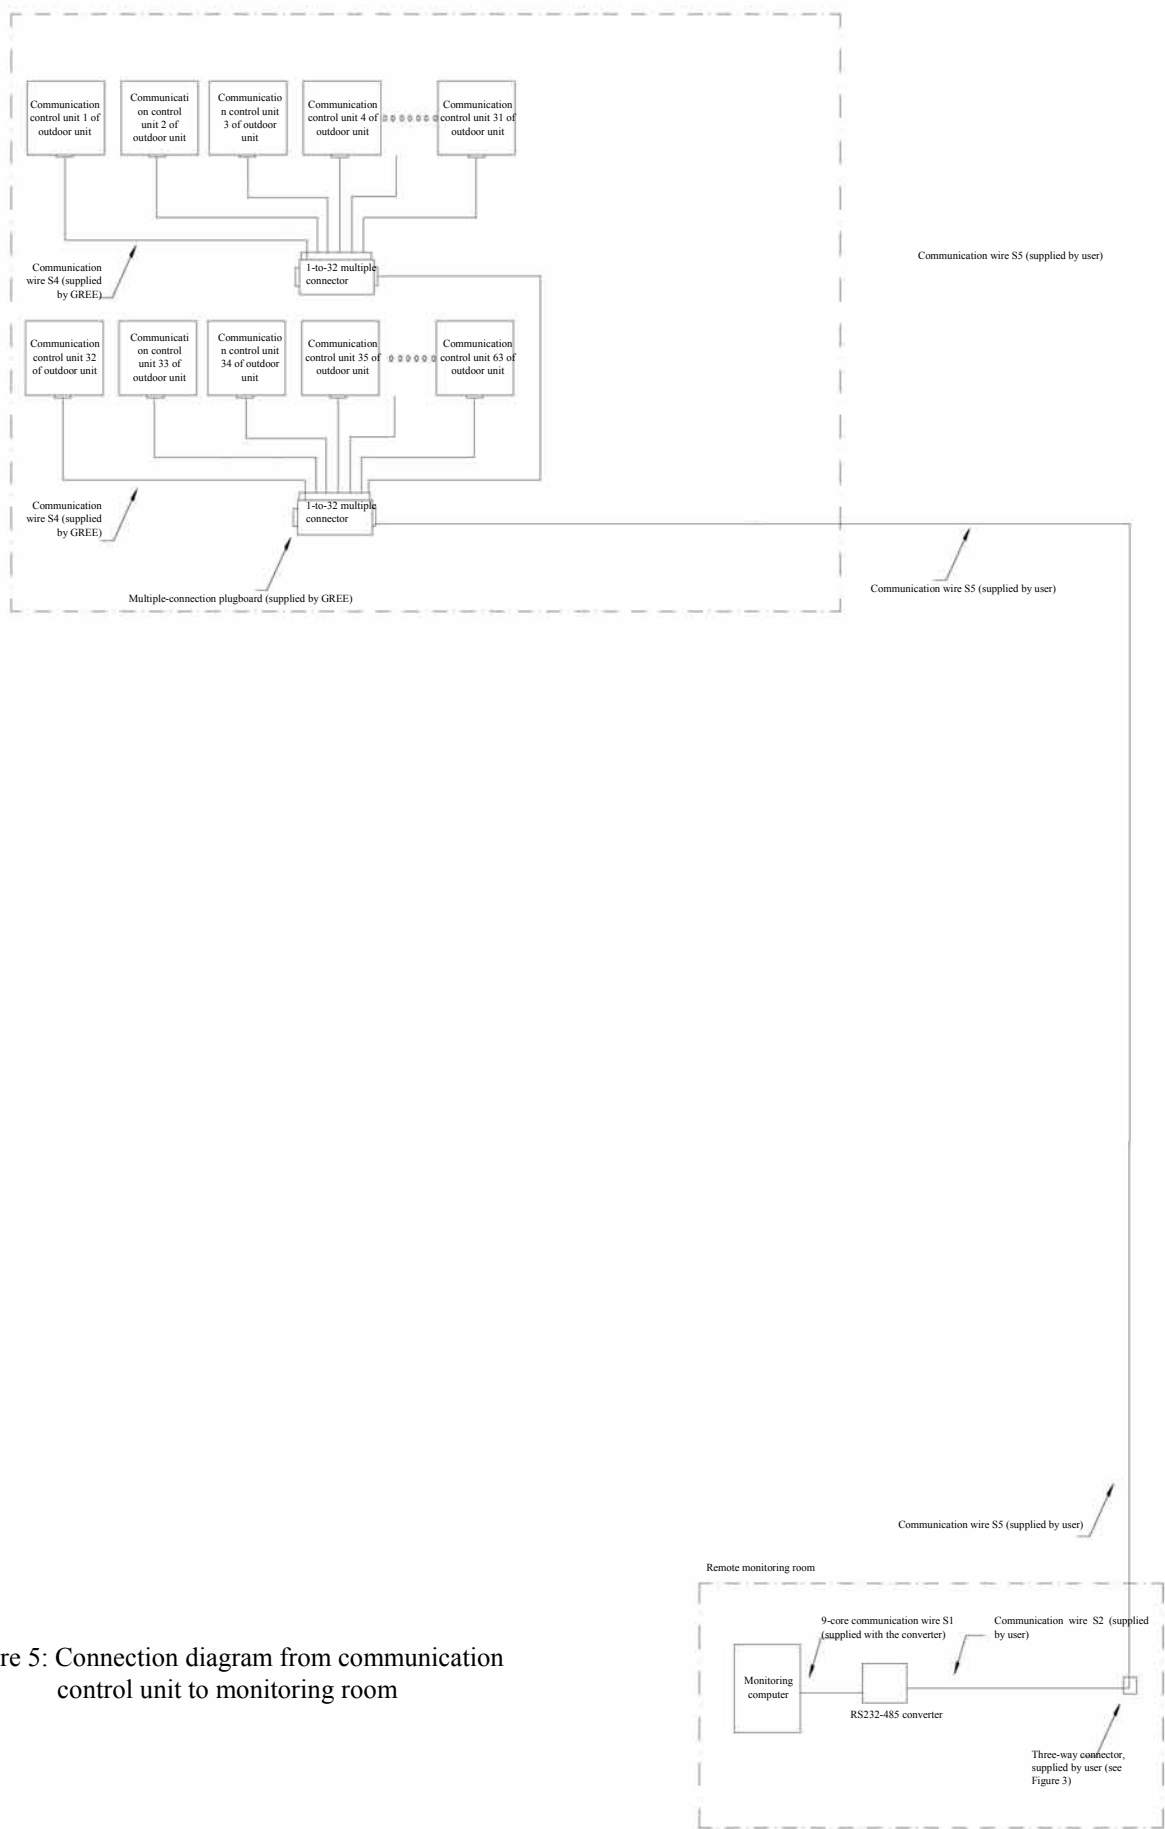

Figure 5: Connection diagram from communication control unit to monitoring room
12. Figure 5 is the connection diagram from communication control unit to monitoring room (number of main units is less than 64). The scheme shown in Figure 1 can also be adopted